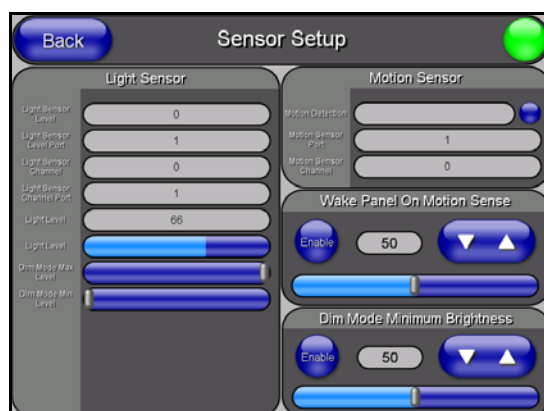

FIG. 97 Sensor Setup page
The Sensor Setup page (FIG. 97) allows you to adjust the Light and Motion Sensor parameters on a Modero touch panel.
3. Open the Sensors Setup page (FIG. 97 on page 95) from the Protected Setup menu section.